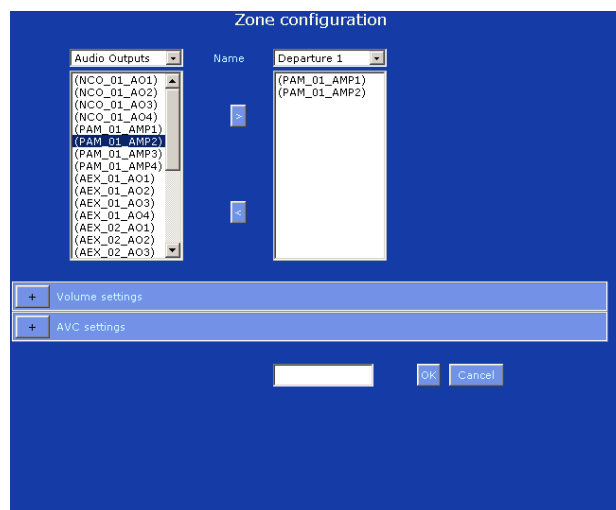

figure 36.4: Add zone, step 2
- 2 Click the *Add* button. A screen similar to the one in figure 36.4 appears in the main frame of the web interface.